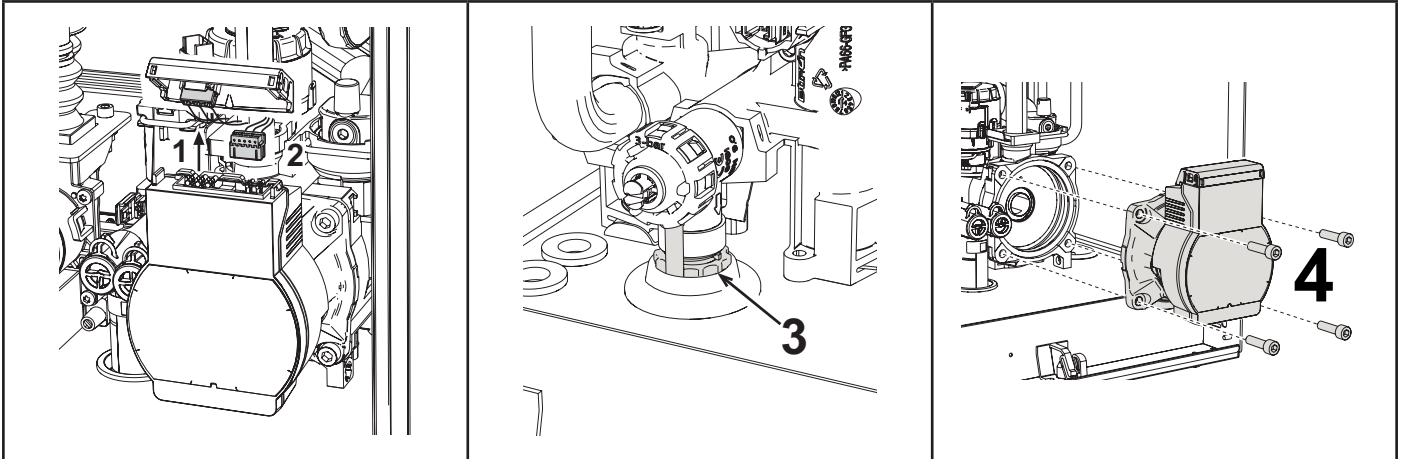

fig. 186 - Circulator replacement / maintenance
- Electrically disconnect the circulating pump, releasing the connections by raising the detail "1" of fig. 186.
- Unscrew and remove the circulating pump motor assembly ("4" di fig. 186).